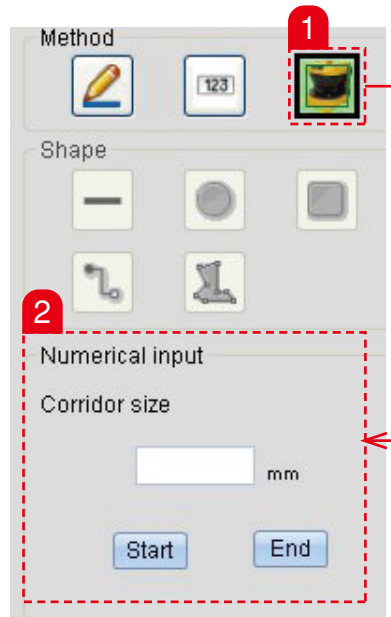

Figure 7-42. Teaching parameter
- c) Key-in the respective parameters, corridor size. (Figure 7-42).